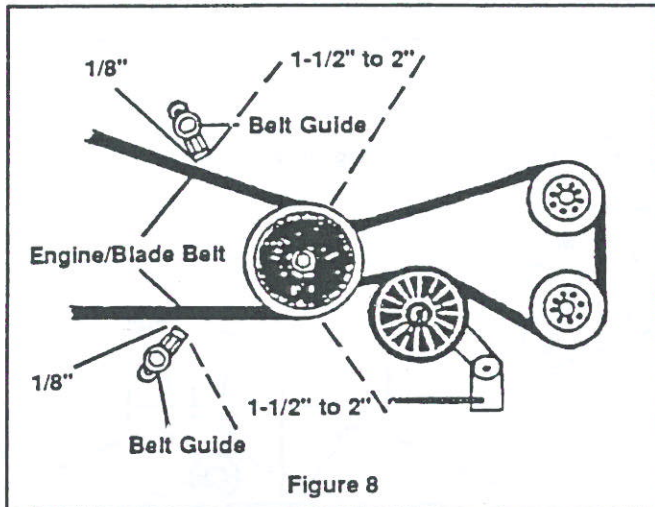

Figure 8
### ENGINE PULLEY/BLADE BELT GUIDE ADJUSTMENT (Figure 8):
Located around the engine pulley are two L-shaped belt guides (Figure 8), which guide the blade belt out and away from the engine pulley when the blades are disengaged. When servicing the blade belt drive system, it will be necessary to reposition these belt guides. To Adjust:
1. Loosen the belt guide(s) mounting bolts. Move the guides so they are distanced approximately 1-1/2" to 2" from the engine pulley (Figure 8) and positioned so that there is a 1/8" clearance between the belt guide and engine blade belt when the blade belt is tensioned (blades engaged).